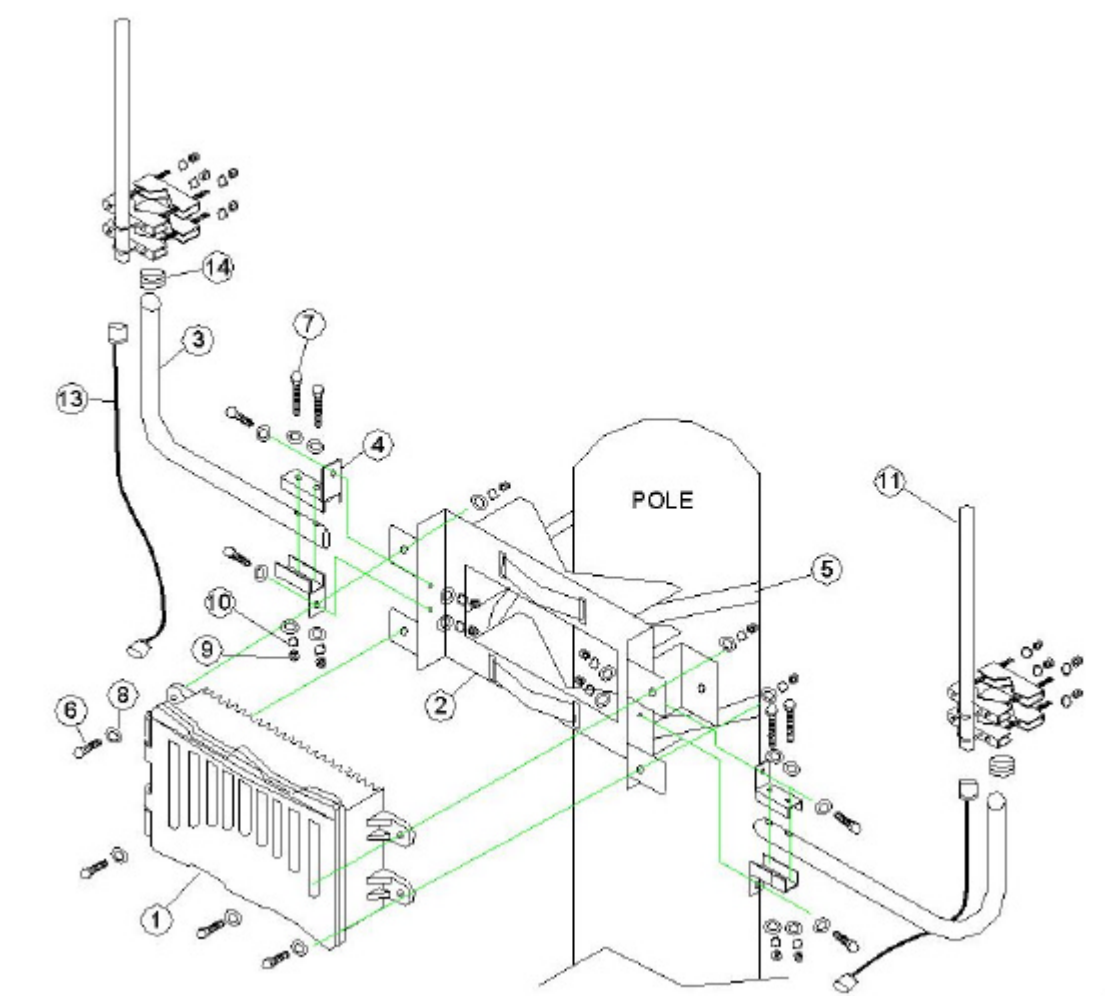

Figure. 5-1
According to figure 5-1, assemble components (3) and (4) for two sets (left and right) by M6*40 screws with grommet or spring grommet between the screw and screw nut using components (7), (8), (9), and (10).